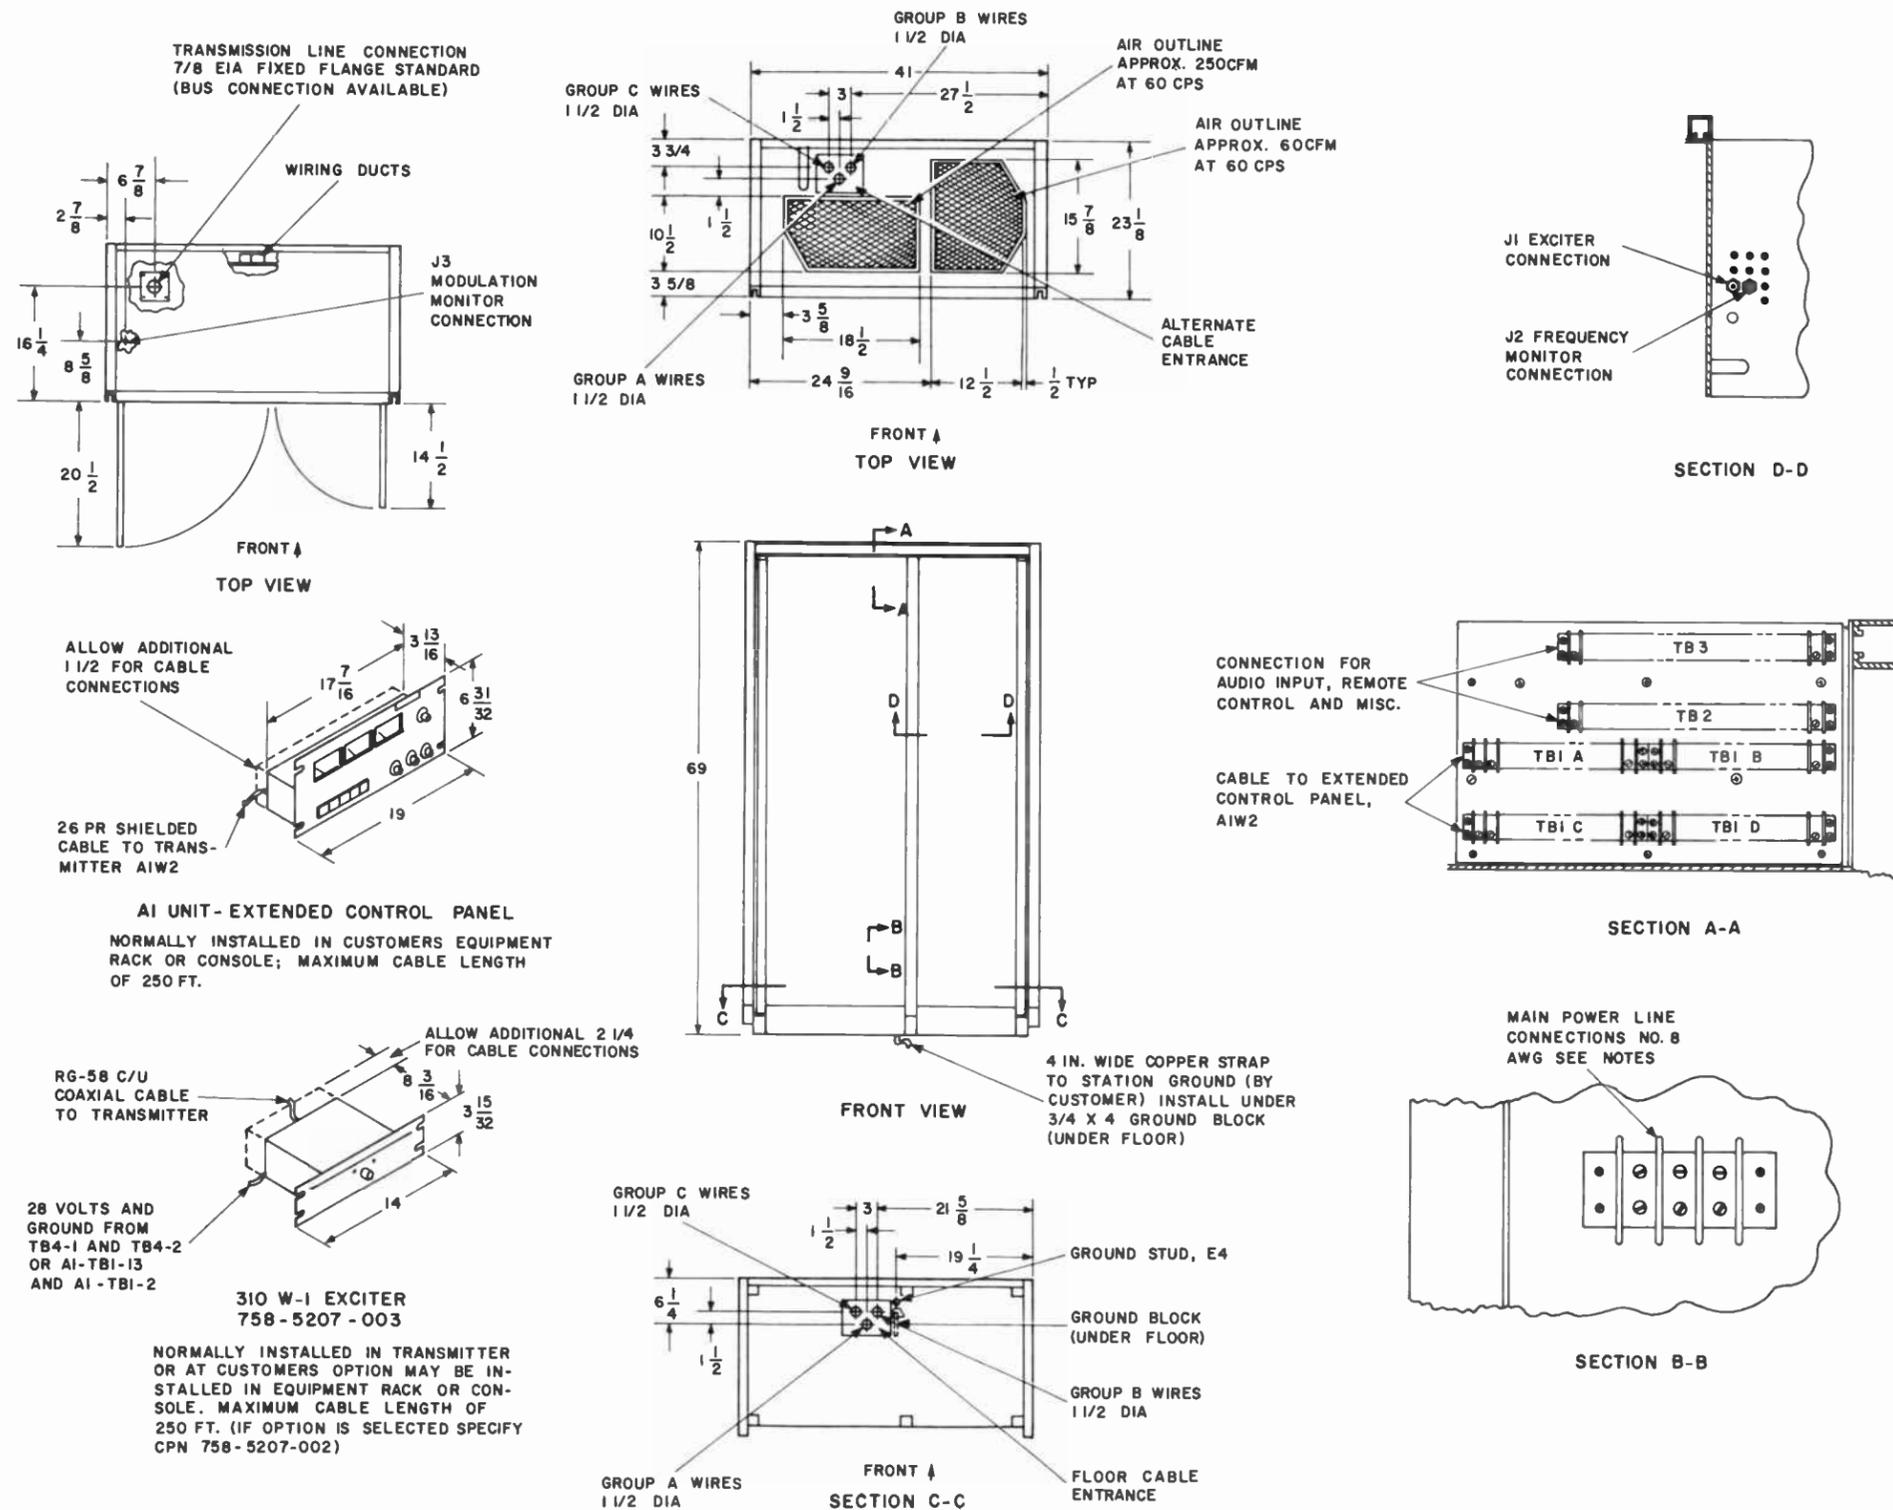

Figure 2-1. Outline Dimensions and Installation Details.
- a. Place the control cable (A1W2), the RG-58C/U coaxial cable (A10W12), and the customer-furnished wires of groups B and C in the proper position (figure 2-1).
- a. Place the cabinet in the desired location. Verify that the wires and cables (paragraph 2.3) are accessible when the cabinet is in position (figure 2-1).
- c. Pull the control wires and cables (groups A, B, and C, figure 2-1) through the access in the bottom (or top) of the cabinet and route through the customer wiring duct on the rear wall of the cabinet.
- a. Connect one end of the 26-pair, shielded cable A1W2 to terminal board TB1 on the right wall of the left bay (figures 2-1 and 2-3).
Verify the wiring of the 310W-1 using figures 2-1 and 2-4 and the schematic in the envelope inside the back cover of this manual.
(feed-through) on the bottom of the tube compartment (figure 2-1).
- d. Connect one end of the customer-furnished modulation monitor cable (RG-58C/U) to J3 (feed-through) on top of the output network (figure 2-1).
- a. Connect the rf coaxial cable (50-ohm) to the transmission line connector on top of the output network (figure 2-1). The transmission connector is a 7/8-inch Electronics Industries Association (EIA) flange. An optional bus connection is available.
- a. If remote control of the transmitter is used, remove the jumpers from terminals 1 and 2, 3 and 4, 5 and 6, 7 and 8, and 9 and 10 of TB3 on the right side of the top left section (figure 2-1).